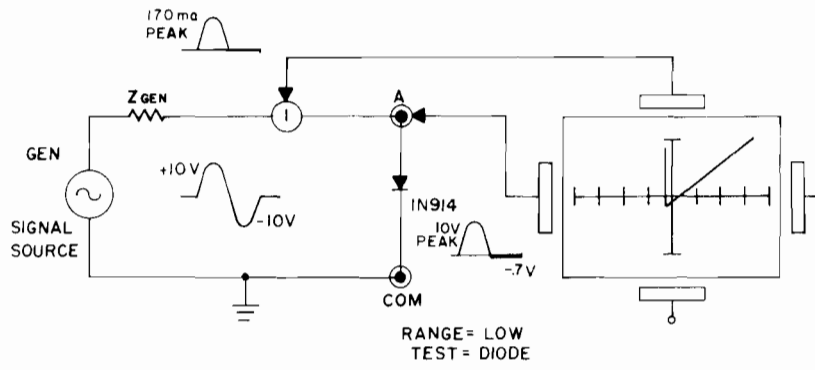

FIG. 6a
**Figure 6a** shows a silicon diode junction being observed with the **TRACKER**® in the LOW range, while **Figure 6b** shows traces in HIGH and MEDIUM ranges.